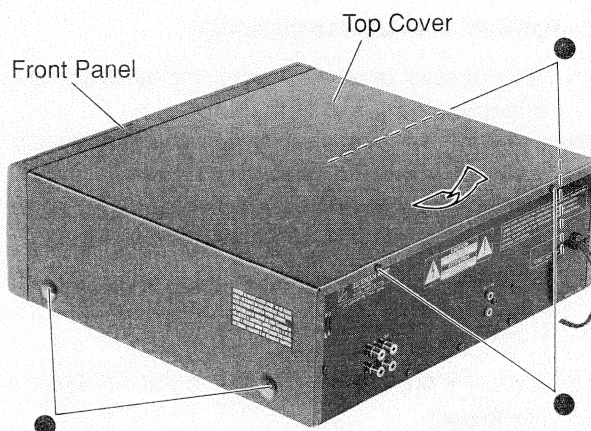

Figure 4
- (1) Remove six screws marked "●" as shown in Figure 4.
- (2) Pull out the top cover in the arrow direction as shown in Figure 4.